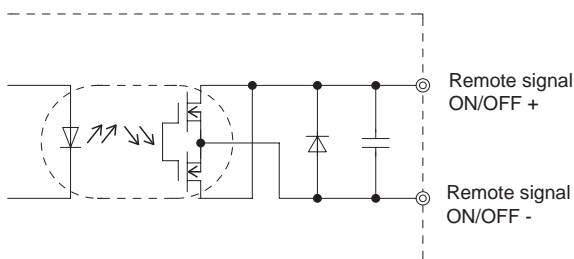

Fig.1.5 Internal circuit of Remote signal ON/OFF
- The internal circuit is on Figure 1.5.